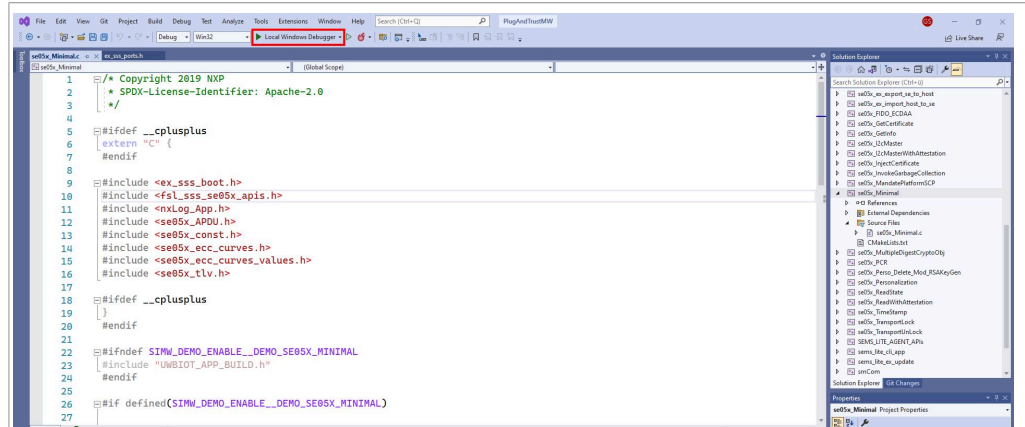

Figure 22. Run `se05x_minimal` project
- Click on **Local Windows Debugger** button in the top menu to run `se05x_minimal` project as shown in Figure 22. The project will be executed after the project building process has finished.